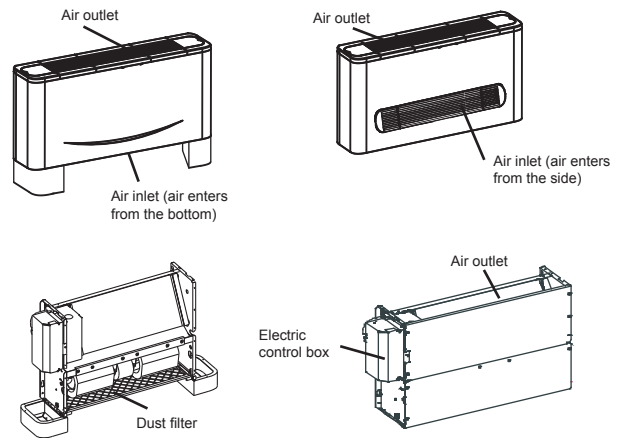

Figure 2.4
3. Based on the shape of the room, determine the airflow directions for the installation site. See Figure 2.4 for the schematic on the direction of airflow.